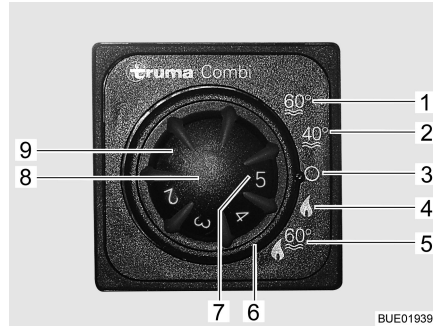

Fig. 58 Operating unit for heater/boiler
- Set the operating mode using the rotary switch (Fig. 58,6).
The heater selects the necessary burner setting according to the required room temperature. When the required room temperature is reached, the burner is switched off. In "Heater and production of hot water" operating mode (Fig. 58,5) water in the boiler is also heated. In the operating mode "Only heater" (Fig. 58,4) the heater can be operated with an empty boiler.
- Turn the temperature control knob (Fig. 58,8) on the operating unit to the desired heating level.
- Set rotary switch (Fig. 58,6) to winter operation "Only heater" (Fig. 58,4) or to winter operation "Heater and production of hot water" (Fig. 58,5).
The green indicator lamp (Fig. 58,7) is on.
- Set the rotary switch (Fig. 58,6) to "O" (Fig. 58,3).